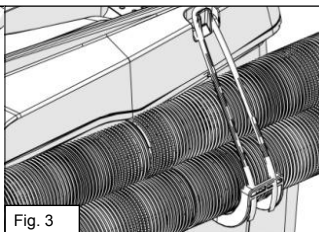

Fig. 3
4. MANICO e GANCI LATERALI AVVOLGI TUBO in Fig. 3;